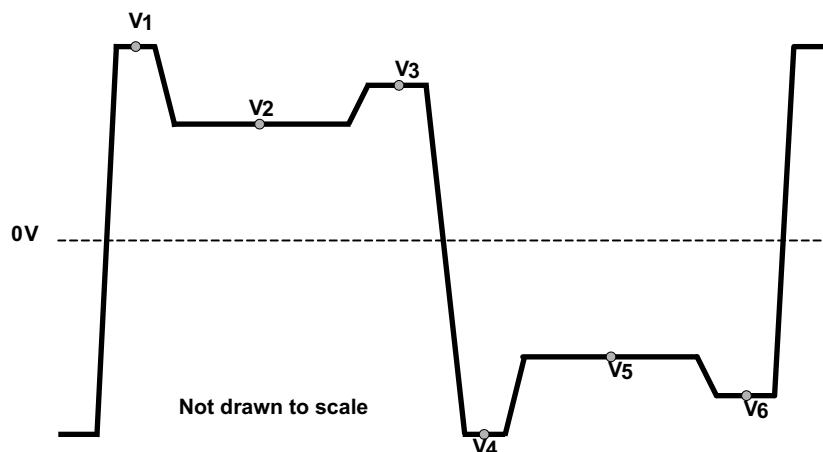
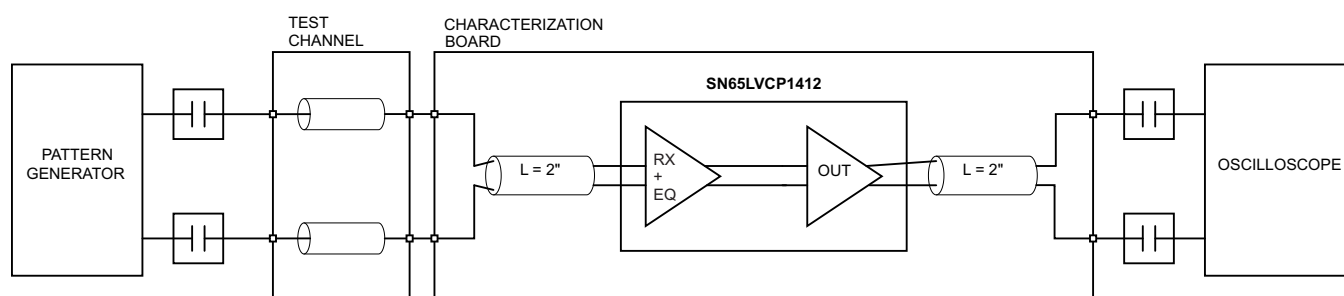
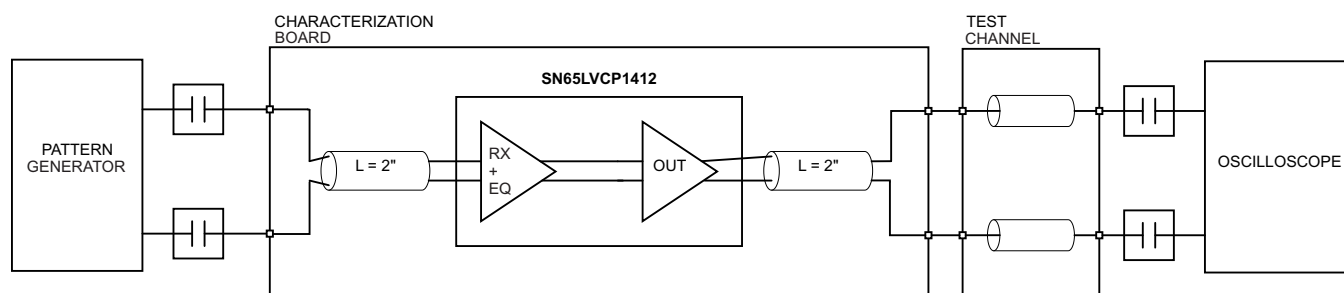

Figure 9. Vpre and Vpost (The test pattern is 111111100000000 (8-1s, 8-0s))
Figure 10. Receive Side Performance Test Circuit
Figure 11. Transmit Side Performance Test Circuit
(2) Rise and Fall measurements include board and channel effects of the test environment, refer to Figure 10 and Figure 11
(3) t_{SK(O)} is the magnitude of the time difference between the channels.
(4) t_{SK(PP)} is the magnitude of the difference in propagation delay times between any specified terminals of two devices when both devices operate with the same supply voltages, at the same temperature, and have identical packages and test circuits.
(5) All noise sources added.
Regarding timing, the SN65LVCP1412 is I^2C compatible. The typical timing is shown in Figure 9 and a complete data transfer is shown in Figure 10. Parameters for Figure 9 are defined in Table 3.